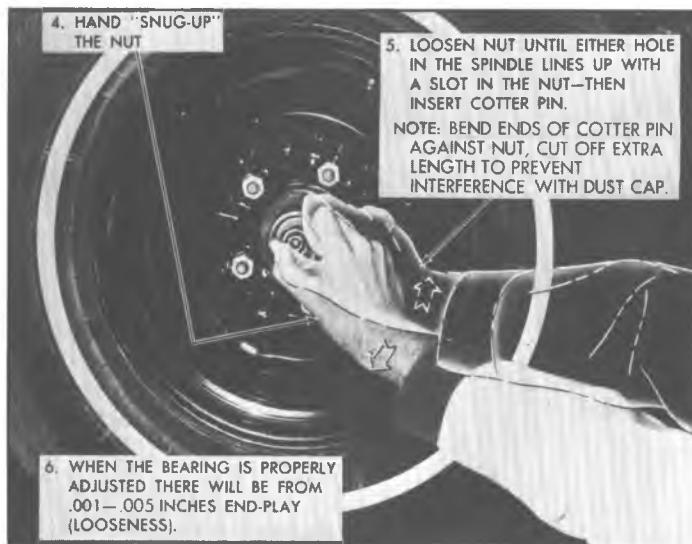

Fig. 17—Wheel Bearing Adjustment
ADJUSTMENT (FIG. 17)
4. Tighten the spindle nut to 12 ft. lbs. while turning the wheel assembly forward by hand to fully seat the bearings. This will remove any grease or burrs which could cause excessive wheel bearing play later. (See Fig. 17).